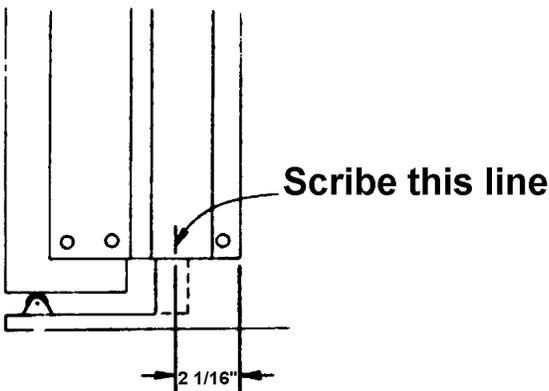

Figure 1
1. See figure 1 below.
5. Scribe a vertical line (1). See figure 1 below.